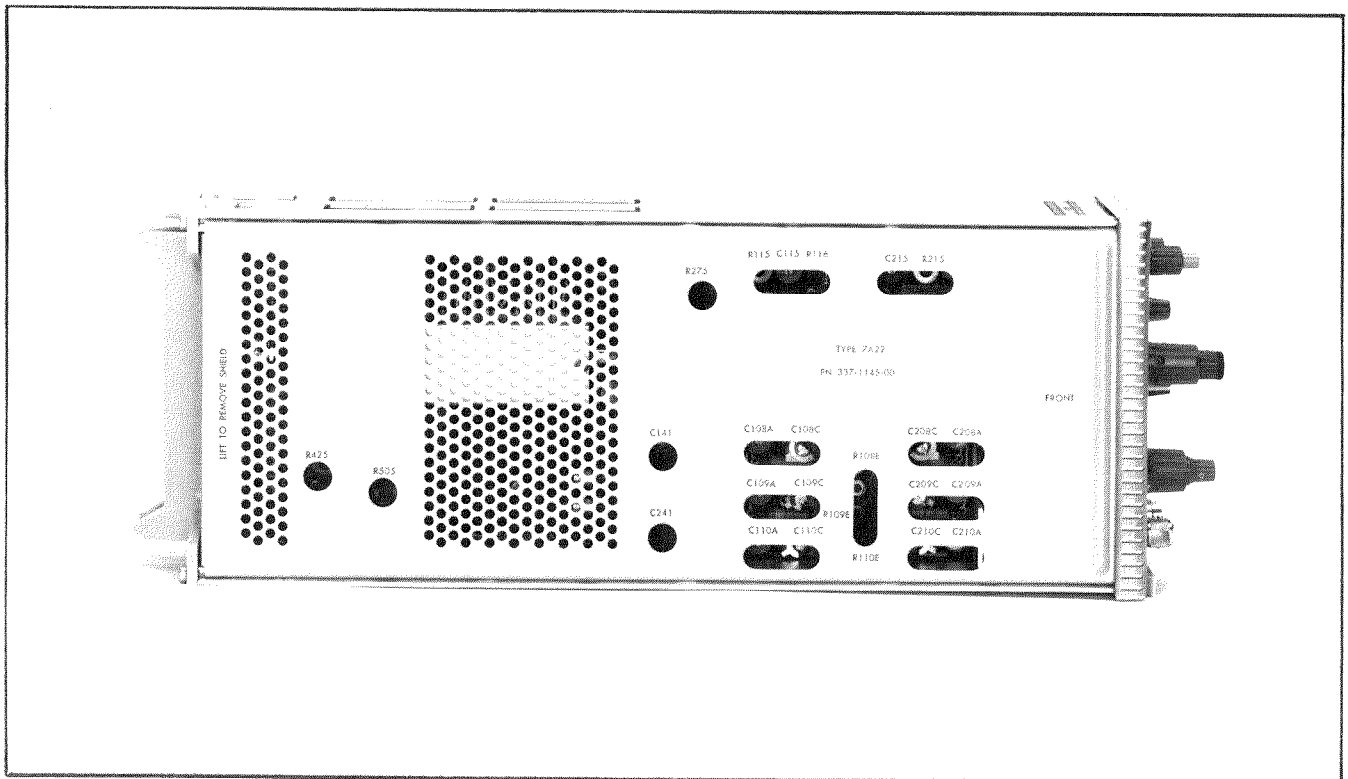

Fig. 5-1. Left side of the 7A22 showing adjustment locations.
1. Check or Adjust AC Step Atten Bal ①
- d. ADJUST—AC Step Atten Bal control, R505, (see Fig. 5-1) to position the trace within 1.5 div of graticule center.
2. Check or Adjust Variable Bal ①
- e. ADJUST—Variable Bal control, R425, (see Fig. 5-1) for no trace shift while rotating the VARIABLE control.
3. Check or Adjust Coarse DC Bal ①
- d. ADJUST—Coarse DC Bal, R275, (see Fig. 5-1) to position the trace to graticule center.
4. Check or Adjust + Gate Current Zero ❶
- e. ADJUST—The +Gate Current Zero control, R115, (see Fig. 5-1), to position the trace to graticule center.
5. Check or Adjust — Gate Current Zero ❶
- e. ADJUST—The —Gate Current Zero control, R215, (see Fig. 5-1), to return the trace to graticule center.